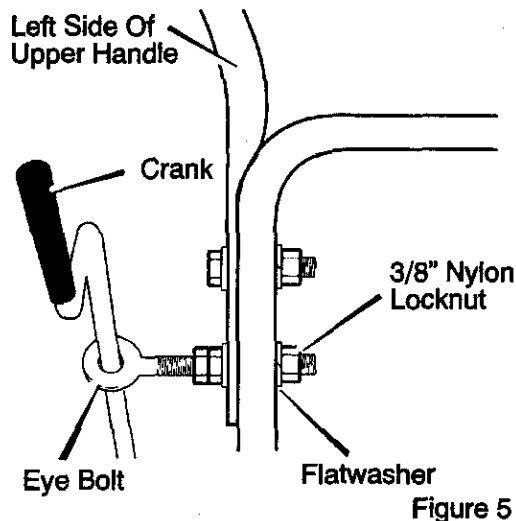

Figure 5
4. Remove the fasteners and the eye-bolt from the lower holes of the lower handle See Figure 5.